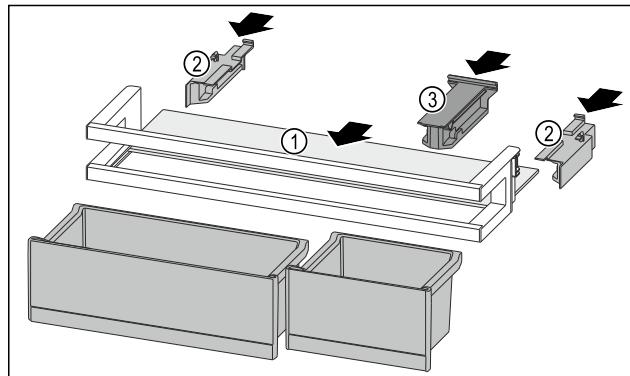

Fig. 119
- ▶ Push the shelf Fig. 119 (1) into the side cutouts.
- ▶ Insert the side parts Fig. 119 (2).
- ▶ Insert the retaining part Fig. 119 (3).